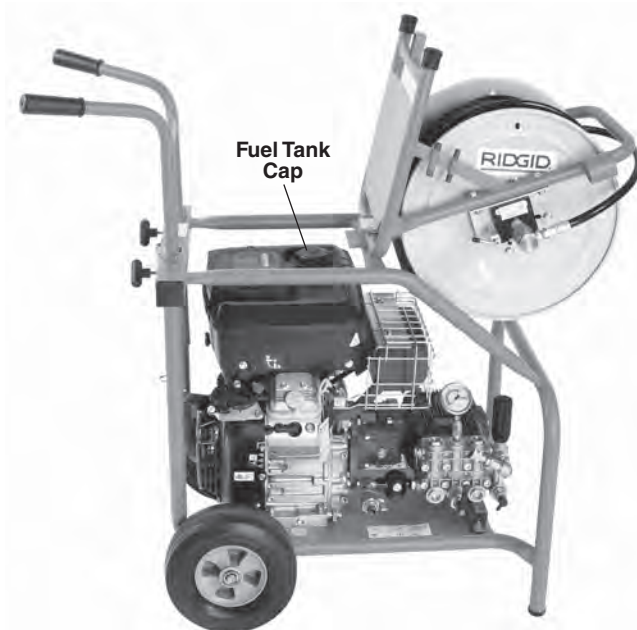

Figure 9 – KJ-3100 Fuel Tank Access
8. Check engine fuel level. For the KJ-3100, disconnect the hose reel latch and rotate the hose reel forward until it rests on the frame to provide access to the engine gas cap *Figure 9*. If needed, add unleaded gasoline. See engine operator's manual for details. Use caution when handling gasoline. Re-fuel in a well ventilated area. Do not overfill tank and do not spill fuel. Make sure tank cap is securely closed.